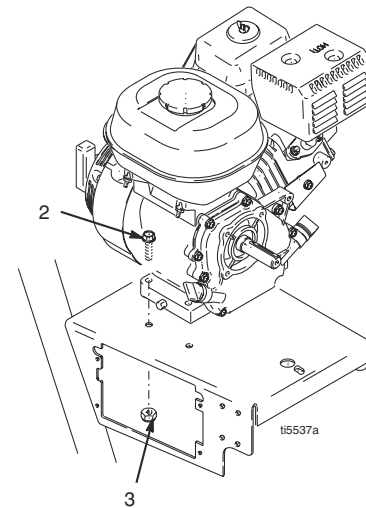

FIG. 12
3. FIG. 12. Remove two locknuts (3) and screws (2) from base of engine.
2. FIG. 12. Install two screws (2) in base of engine and secure with locknuts (3). Torque to 20 ft-lb (27.12 N·m).